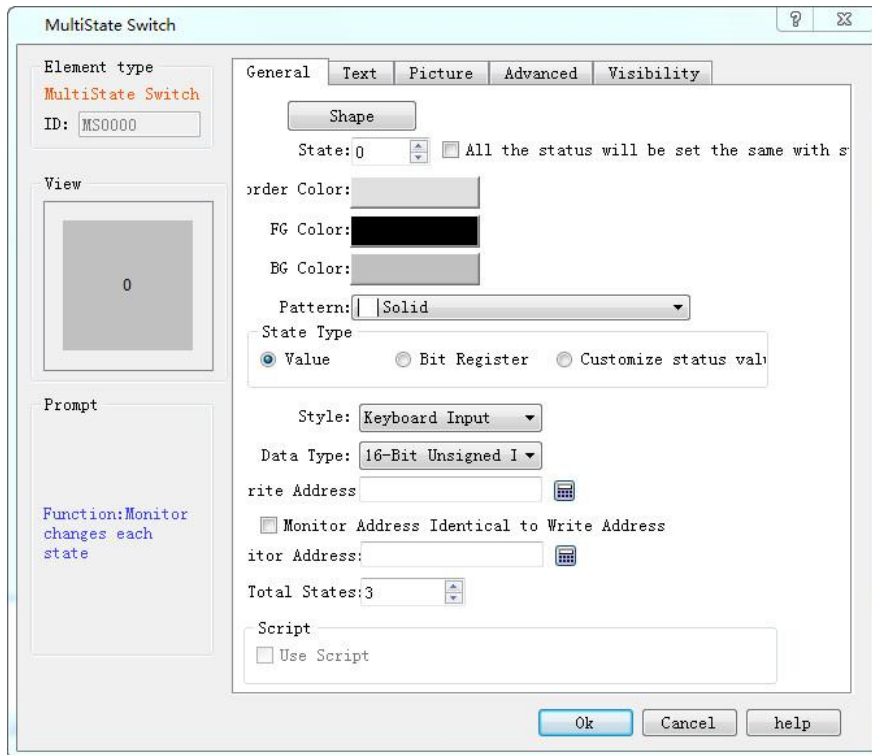

Figure 4-88 Multi-state button select Customize Status Value
- Customize Status Value: When select this option, a "Define Status Value..." button appears, as shown in Figure 4-88: